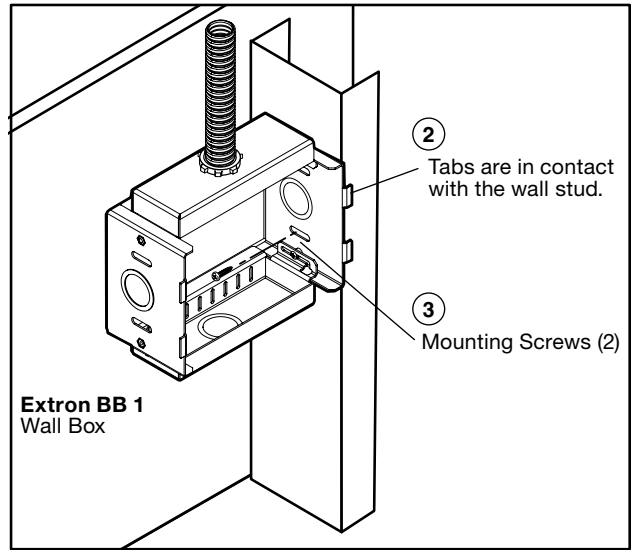

Figure 5.
2. Place the wall box in a suitable place with the tabs on the sides of the box flat against a vertical stud (see figure 5).
3. Secure the wall box to the stud (metal or wooden) using two nails or screws (see figure 5).